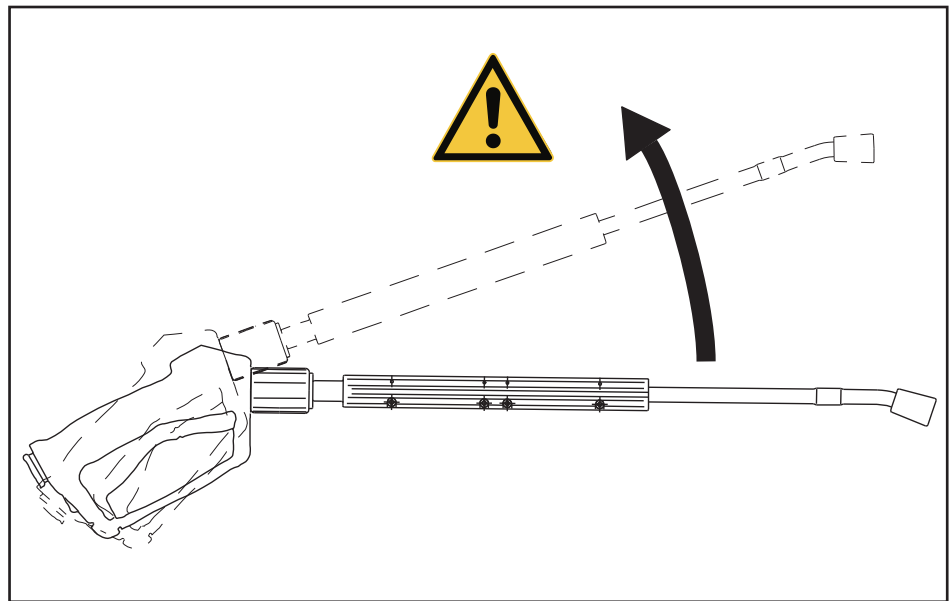

Fig. 6 - 5 Recoil force when switching on the trigger gun
After activation of the trigger gun the emerging water jet exerts a jerky recoil force (see also Fig. 6 - 5).
- ▶ Set the main switch Start - Stop (1, fig. 6 - 1) on the front of the cabinet door to position I. The high pressure cleaner starts. The pump first delivers air from the high pressure nozzle. After a short time, water then escapes.
- Hot water (2, Fig. 6 - 1):